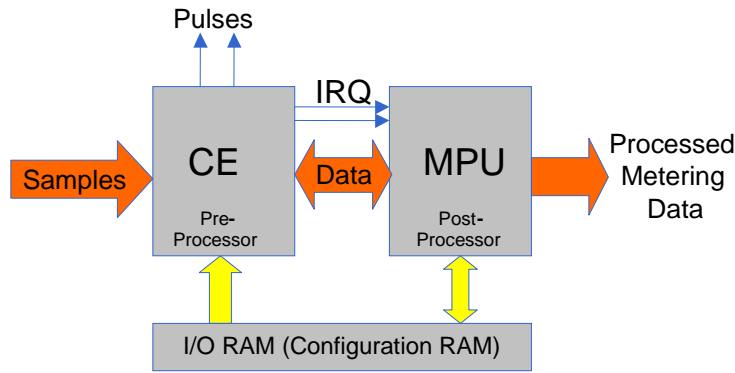

Figure 26: MPU/CE Data Flow
The data flow between the Compute Engine (CE) and the MPU is shown in Figure 26. In a typical application, the 32-bit CE sequentially processes the samples from the voltage inputs on pins IA, VA, IB and VB, performing calculations to measure active power (Wh), reactive power (VARh), A^2h and V^2h for four-quadrant metering. These measurements are then accessed by the MPU, processed further and output using the peripheral devices available to the MPU. Figure 26 illustrates the CE/MPU data flow.